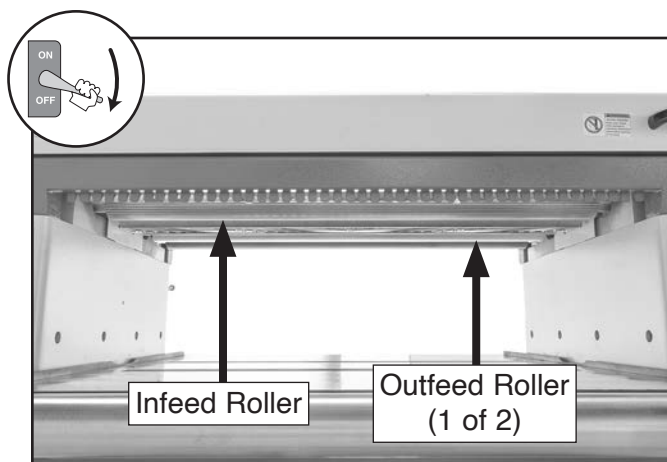

Figure 70. Location of infeed and outfeed rollers.
1. Lower table completely to expose infeed and outfeed rollers (see **Figure 70**).